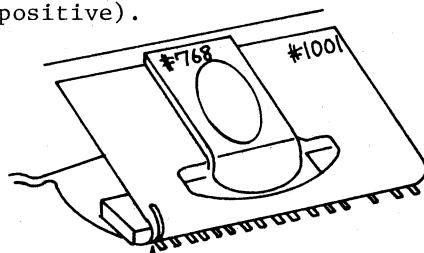

fig. 30 Land of Combination magnet
11. Breakage of land of Combination magnet on #1001. See Figure 30.